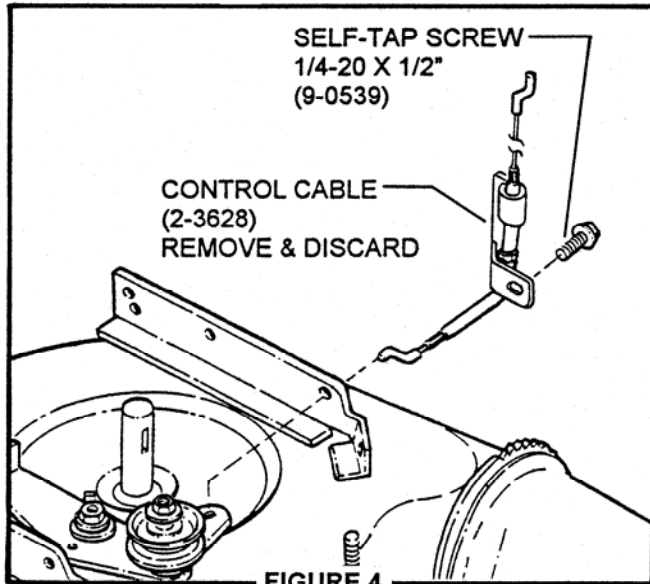

FIGURE 4.
STEP 3: Remove self-tap screw from control cable, part number 2-3628. Discard control cable, re-insert and tighten self-tap screw. See Figure 4.